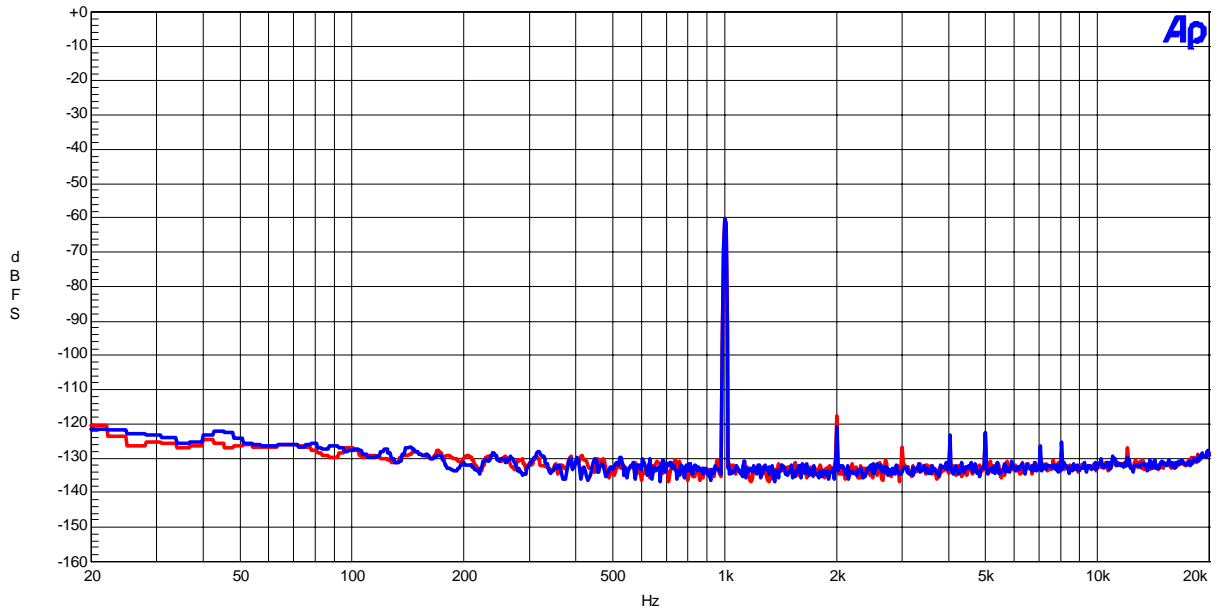

Figure 8 (Input=-60dBFS, fin=1kHz)
- Figure 8 FFT (1kHz, -60dBFS input)